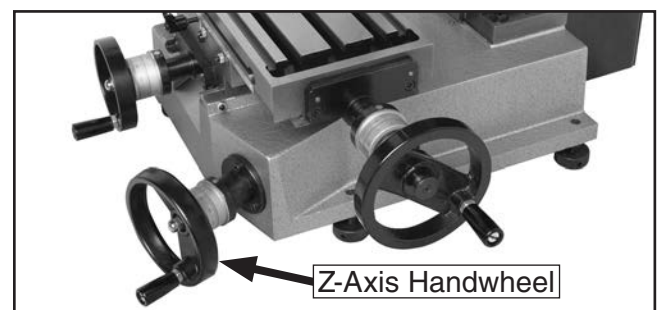

Figure 15. Z-axis control.
2. Turn the Z-axis handwheel shown in **Figure 15** to raise or lower the headstock, then lock the headstock slide lock lever.